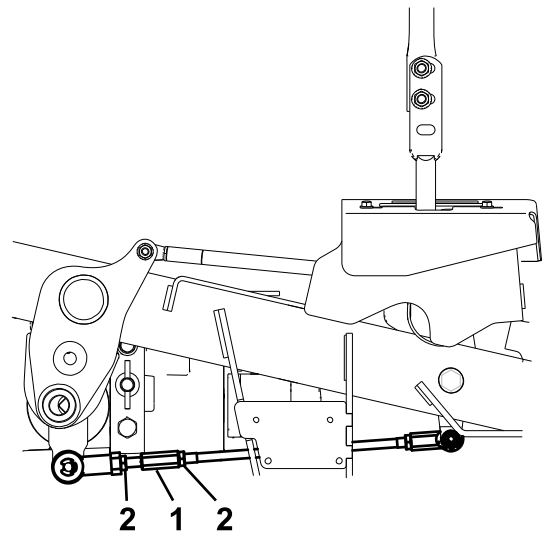

Figure 64
- Adjust the pump control rod lengths by rotating the double nuts on the rod in the appropriate direction until the wheels slightly creep in reverse (Figure 64).